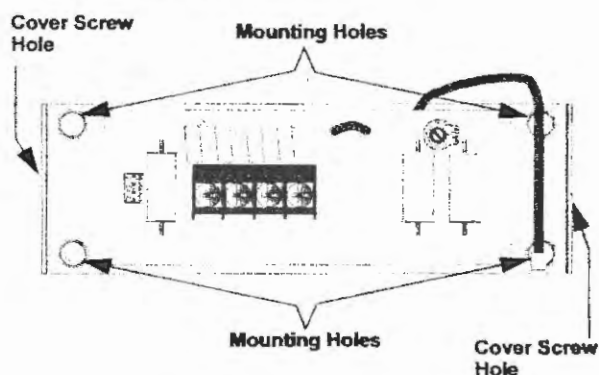

Figure 1: Mounting the 5220
2. Mount the 5220 with four screws in the holes shown in Figure 1.